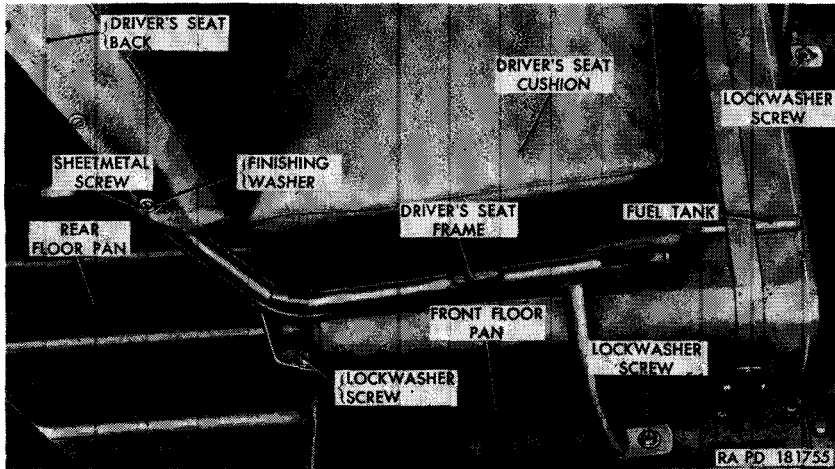

Figure 133. Driver's seat
a. *Driver's Seat* (fig. 133).
- (1) *Removal.* Remove the four lockwasher screws securing the seat frame to the front and rear floor pans and wheel panel and lift seat out of vehicle.
d. *Driver's Seat Cushion* (fig. 133).
(2) *Removal.* Remove driver's seat (a(1) above). Remove the two lockwasher screws securing the seat cushion to the seat frame. Pull out on seat cushion to disengage clips at rear of cushion from seat frame and remove cushion. Remove the 12 sheet metal screws and finishing washers securing the seat back to the seat frame and lift seat back off frame.